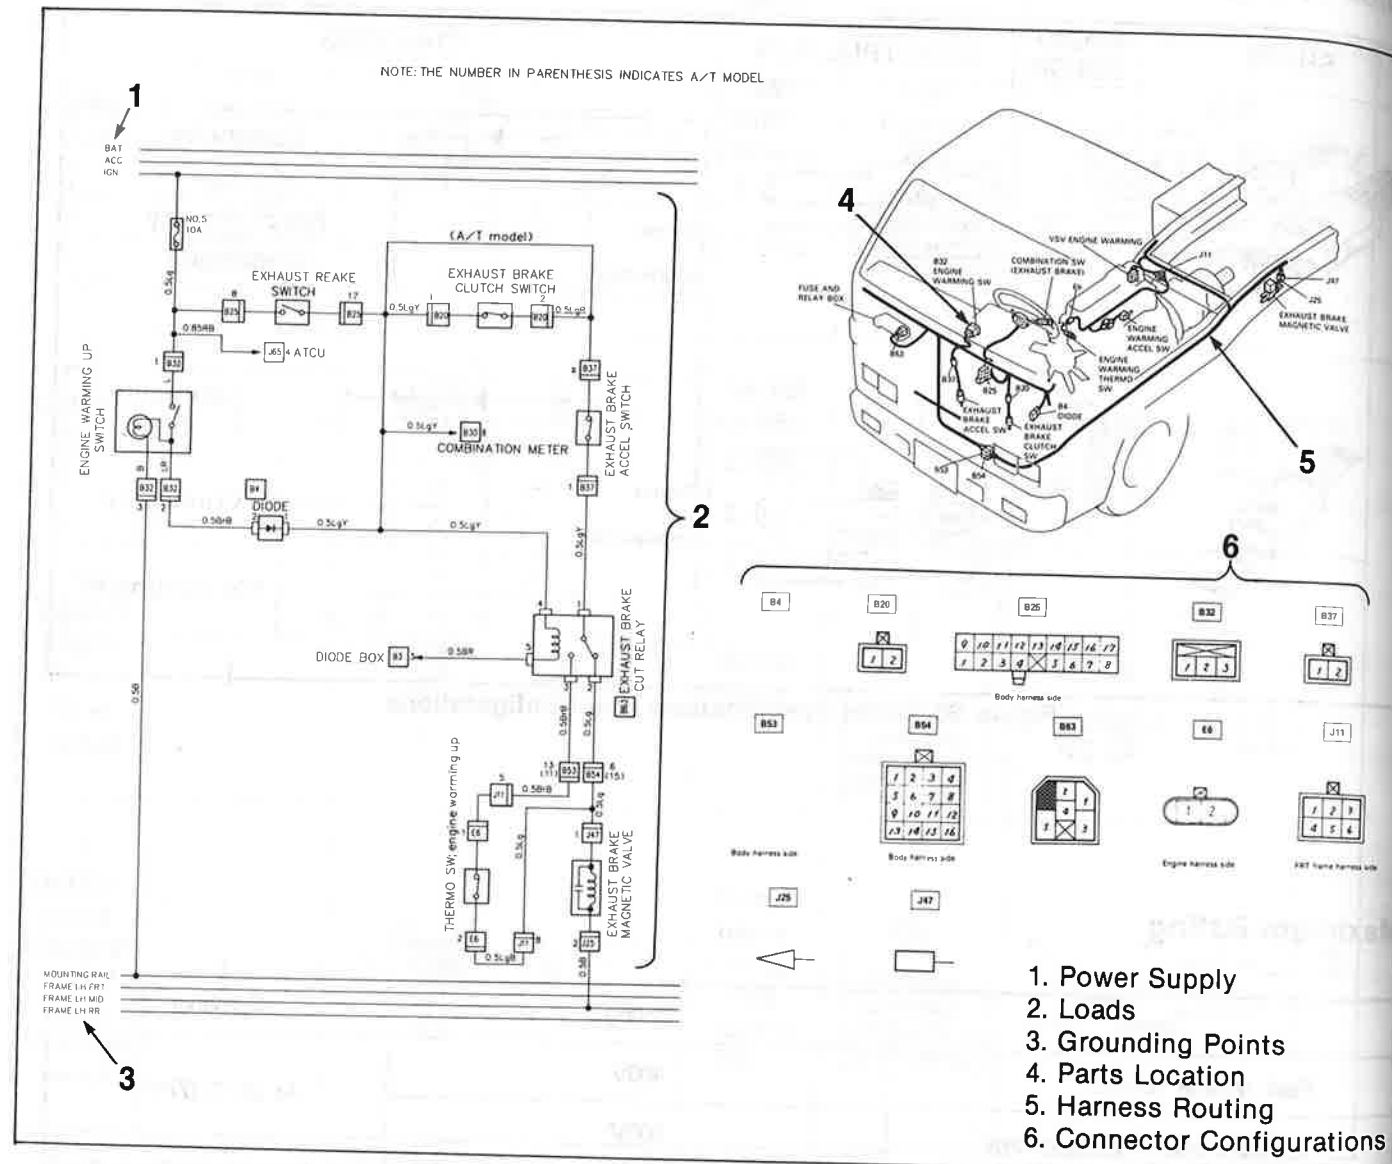

Figure 26. Circuit Diagram and Parts Location
In this manual, each system circuit has its own diagram. The circuit diagram shows the power supply (1), the load or loads (2), and the grounding point(s) (3) (figure 26).
The parts location shows the location of the parts (4) which using the each circuit, harness routing (5) and connector, diode and relay configurations (6) (figure 26).